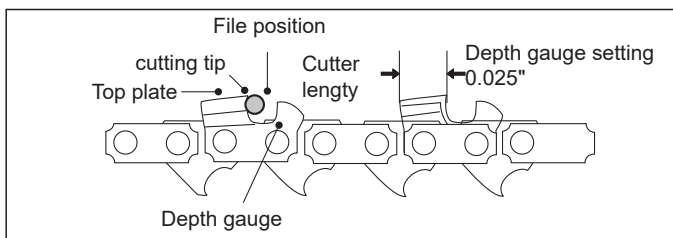

Fig. 15c
- 9). Use a depth gauge measuring instrument to check the height of the depth gauge. Depth gauge measuring jigs are available from most reputable tool merchants (Fig. 15c).